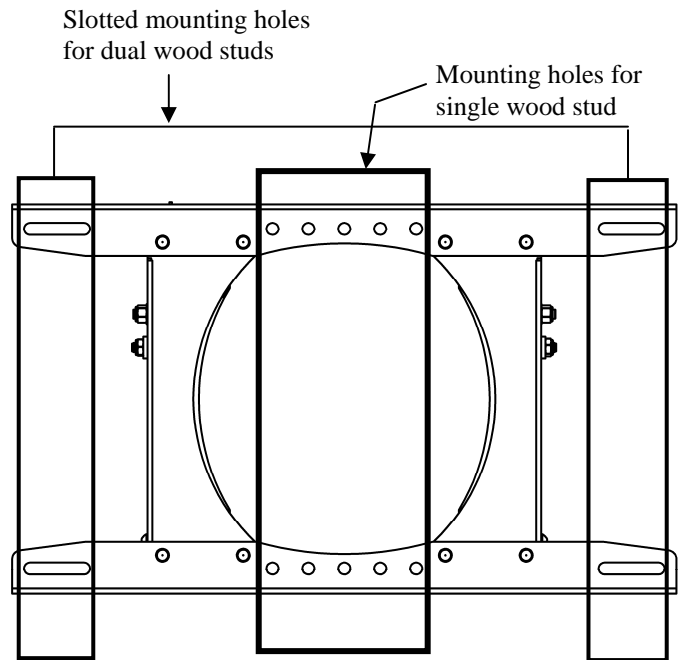

Figure 4. Mounting Holes
4. Holding the CH-SMTR against the wall, select the mounting holes that best suits your situation (see Figure 4 on page 6).
1. Place CH-SMTR against the wall. Align the mount with the pilot holes drilled in the preceding procedure (see Figure 4).